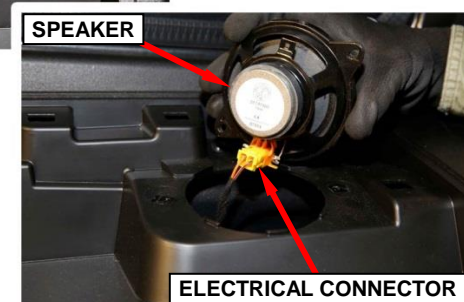

**Figure 13 – Bin Storage Tray**
12. Remove and save the two screws from the left rear quarter trim panel bin storage tray (Figure 13).
13. Remove and save the left rear quarter trim panel bin storage tray. Ensure the nine retaining clips remain on the storage tray during removal. Reinstall any missing clips (Figure 13).
36. Install the bin storage tray to the left rear quarter trim panel. Ensure that all nine retaining clips are installed on the storage tray before installation. Reinstall any missing clips (Figure 13).
37. Install the two screws securing the bin storage tray to the left rear quarter trim panel (Figure 13).